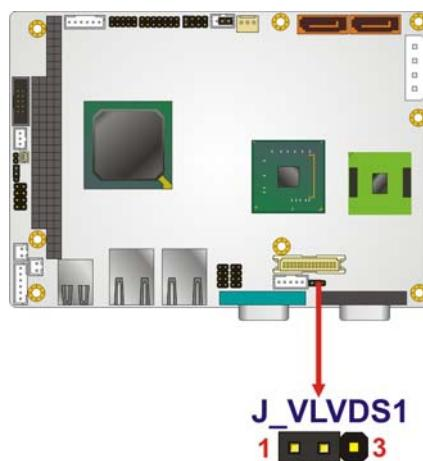

Figure 4-6: LVDS Voltage Selection Jumper Pinout Locations
**Jumper Location:** See Figure 4-6